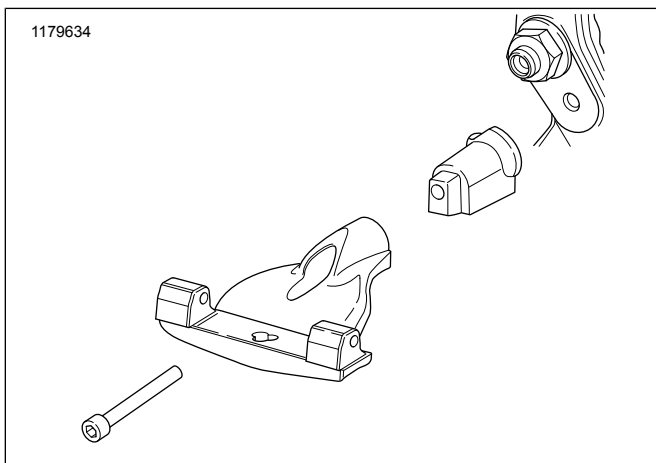
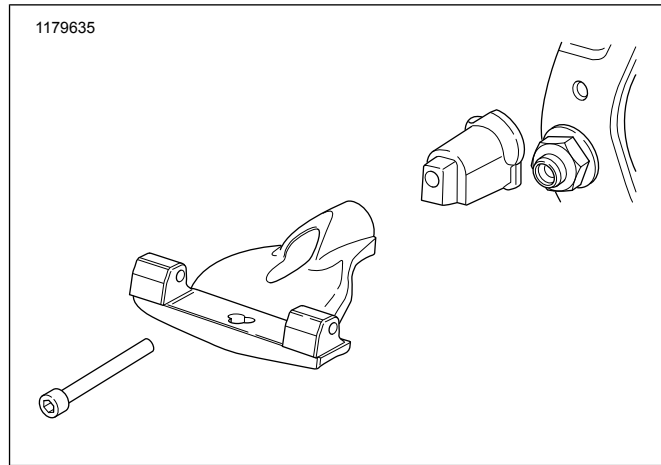

Figure 4. Left Side Installation: FXBR/S, FXBB, FLFB/S, FLSL, FXLR
Figure 5. Left Side Installation: FLSB, FLHC, FLDE
2. **For FXBR/S, FXBB, FLFB/S, FLSL and FXLR models,** see Figure 4. **For FLSB, FLDE and FLHC models,** see Figure 5. Position footboard mount. Apply Loctite 243 threadlocker to the socket head capscrew and insert it through the floor board assembly and proper adapter, and into the mounting hole.